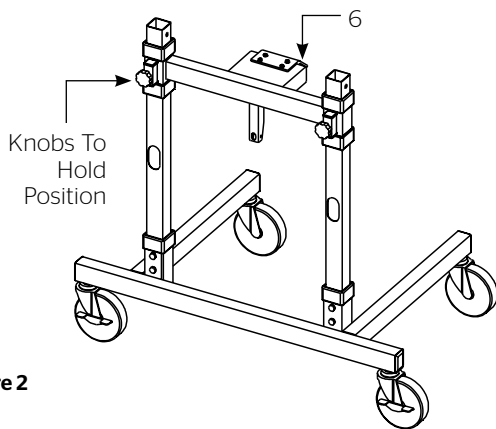

Figure 2
5. Slide the Top Assembly down the Columns. See Figure 2. Position the Top by tightening both Knobs. Make sure unit is level.